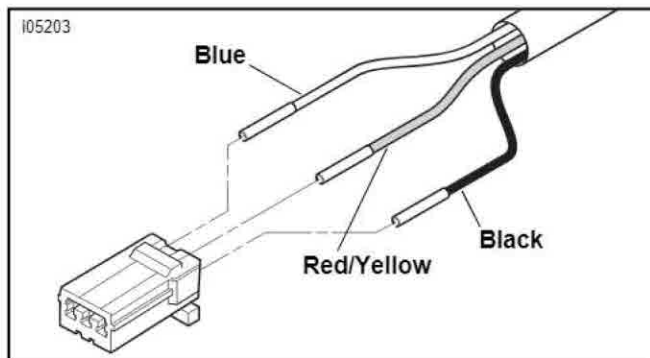

Figure 7. Wiring the Socket Housing
9. See Figure 7. Insert the license plate frame harness wires into the socket housing (9) from the kit as shown. Refer to AMP MULTILOCK ELECTRICAL CONNECTORS in the Service Manual.